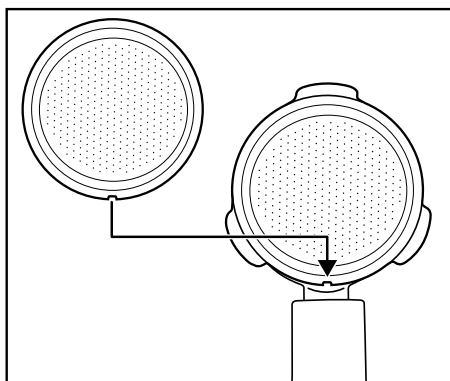

Figure 2
- 1) Fill the water tank ⑨ with tap water.
- 2) Place either the large ⑲ or the small espresso sieve ㉔ in the sieve holder ⑮:
- Make sure that the small indentation on the large ⑲ or small espresso sieve ㉔ is located above the indentation on the sieve holder ⑮ when inserted (Figure 2).